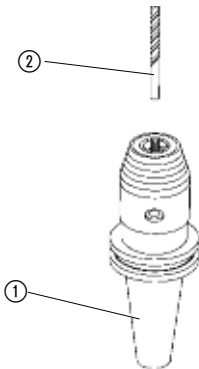

Fig. 1
Fit cutting tool ② to the stud into the CNC drill chuck ① so that the tool shank is fit closely to the whole length of the clamping jaws (Fig. 1).